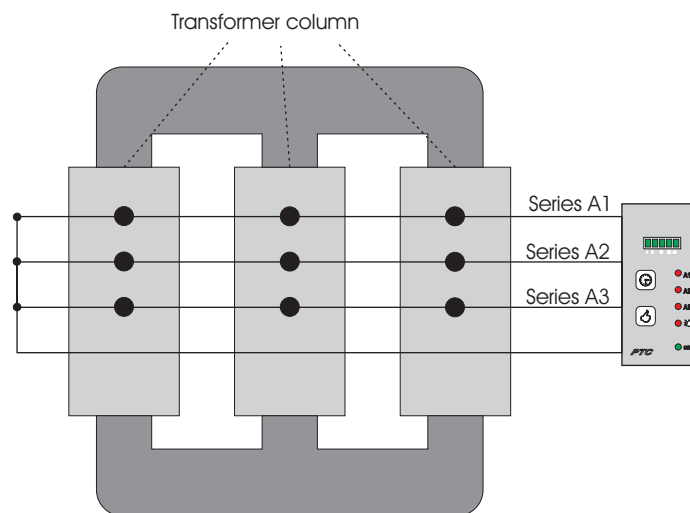
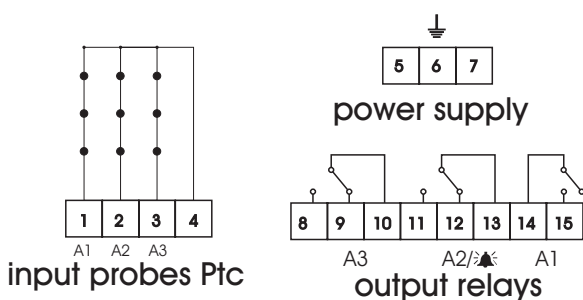

Figure 1
Figure 5
- **3 analog input channels** for resistive probes Ptc to measure 3 temperatures with 3 series of probes: A1 series, A2 series and A3 series (figure 1).
All connections are made with the separable clamps provided with the device for an easy wiring harness. Refer to figure 5 and to the clamp numbering.
Figure 5 shows the position of the relays when they are not excited (turned off device).
Connect the 3 probes series to the device as indicated in figure 5 and place them on the transformer as in figure 1.